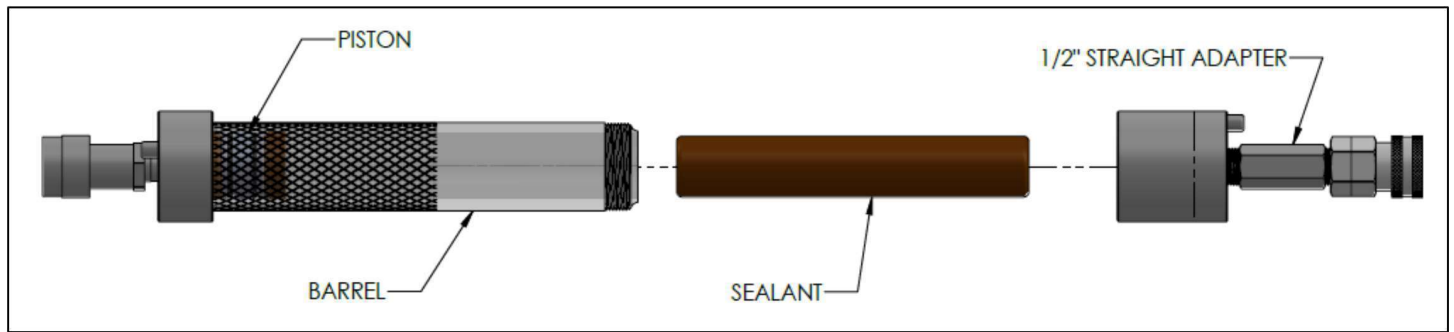

Figure 6
- 3.) Once the piston has been pushed to the bottom of the barrel insert the selected sealant. Screw on the 1/2" straight nipple cap, or the 90-degree hose adapter. Proceed to injecting sealant. When the barrel is empty repeat step 2 and 3 to load more sealant. See Figure 6.